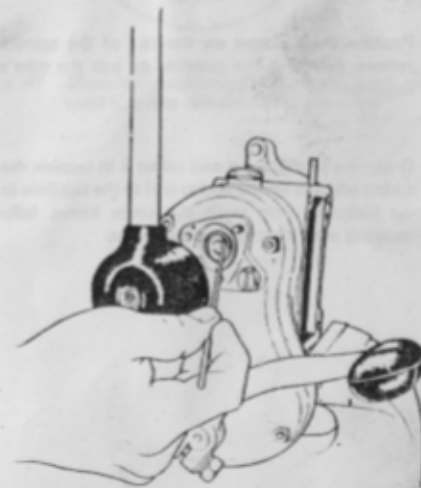

Fig. 40 Gearbox (Transmission) end cover showing Spiralox circlip removal.
- 7 A Spirafix circlip secures the mainshaft. To remove, take a pointed and slightly hooked implement (an old spoke, suitably ground and formed would be ideal), insert under the tail of the circlip and peel out anti-clockwise (see Fig. 40).
- 2 Remove the Spiralex circlip from the mainshaft – use a pointed and hooked instrument. Insert this under the tail of the circlip and peel off anti-clockwise (see Fig. 40).